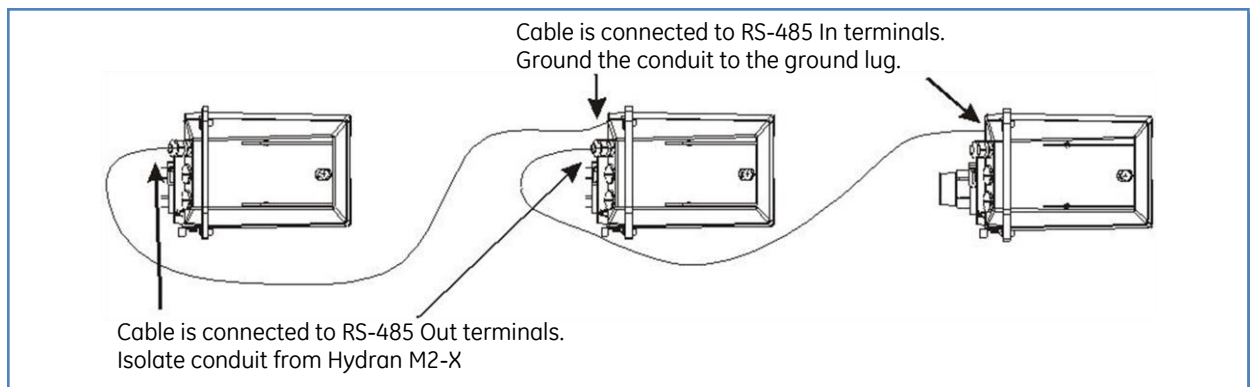

Figure 6-5: Grounding the RS-485 Conduits
3. Isolate from the Hydran M2-X the conduit extremity at which the RS-485 cable is connected to the RS-485 Out terminals. See Figure 6-5 above. Follow the